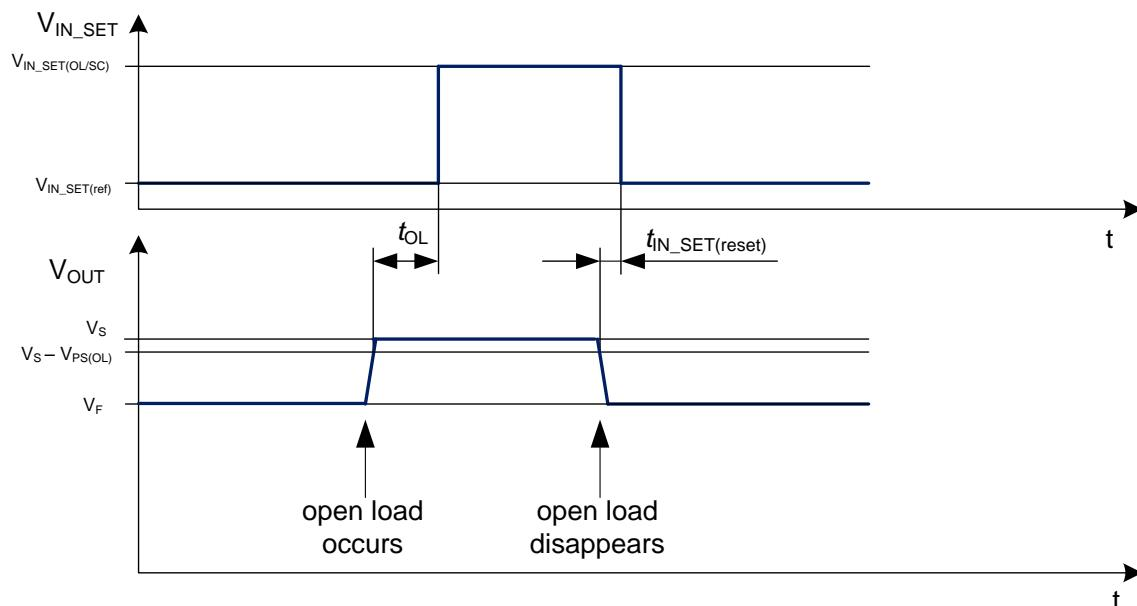
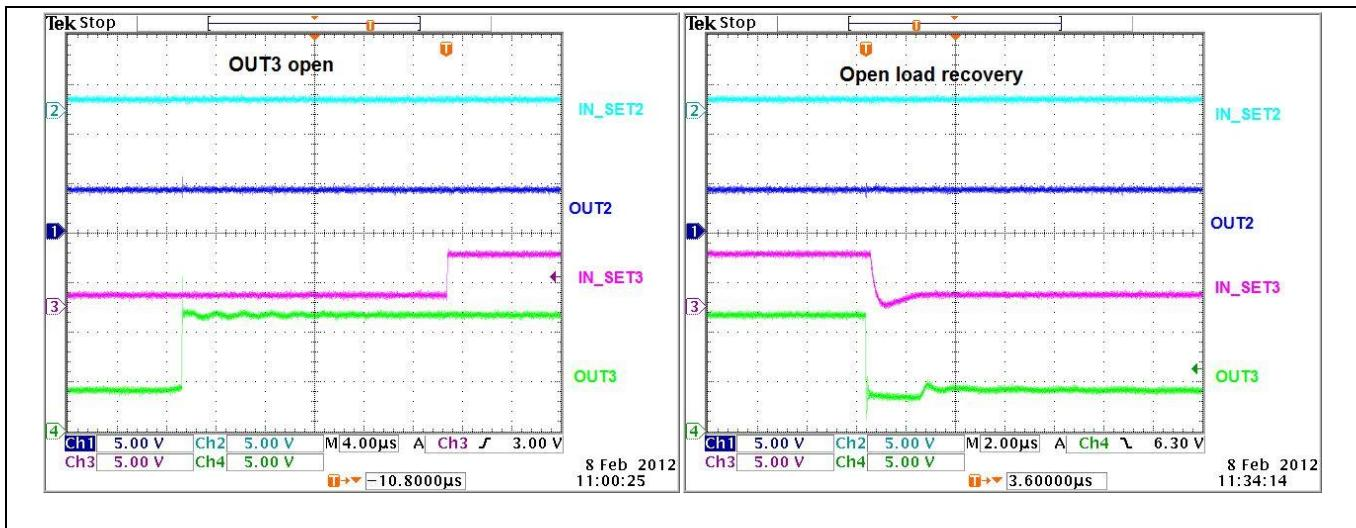

Figure 39 Open Load Detection and recovery timing (IN\_SET pin diagnosis)
Figure 41 Scope plots showing  $t_{OL}$  delay and  $t_{IN\_SET(RESET)}$  for open load (IN\_SET diagnosis, TLD2326EL)
See Figures 39 and 40 for Open Load detection and recovery timing using the IN\_SET or ST pins. Figure 41 shows example scope shots for the open load diagnosis using the IN\_SET pin.
- The diagnostic condition for OL or SC to ground is not latched, the output will function normally again after the fault is removed. The IN\_SET pin will transition to an unfaulted state after a delay of  $t_{IN\_SET(reset)}$  as shown in Figure 39.